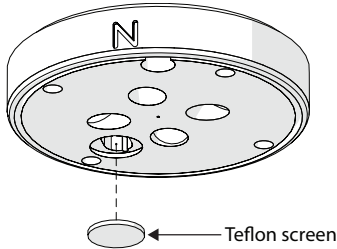

Figure 13 Teflon screen
- d. Observe the Teflon screen (Figure 13) to see if it is dirty.